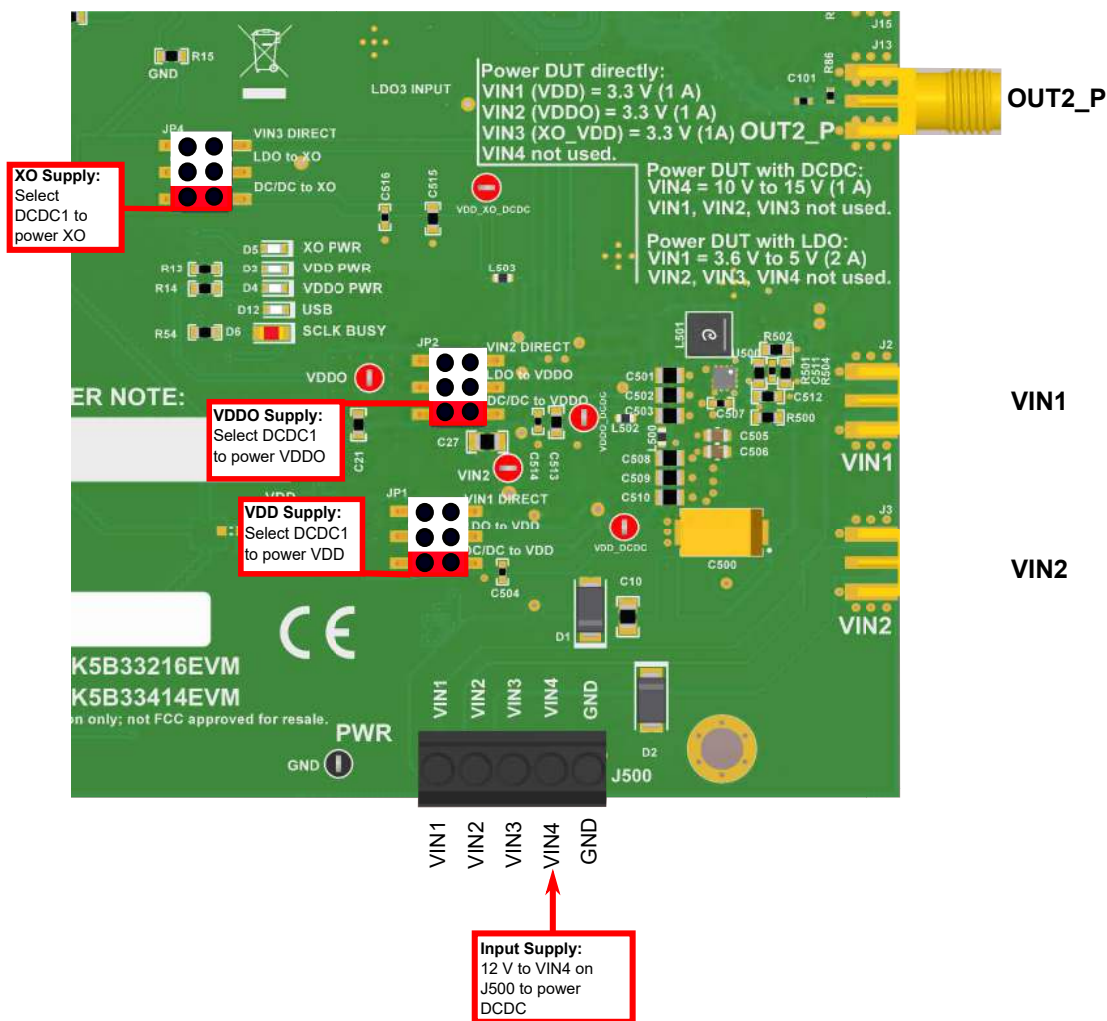

Figure 3-2. Default Power Jumper Configuration
- a. VIN4 and GND terminals on header J500 (pins 4 and 5, see Figure 3-2.)
Figure 3-2 shows the default power jumper locations and settings. Table 3-2 shows the suggested power configurations for the LMK5B33216.